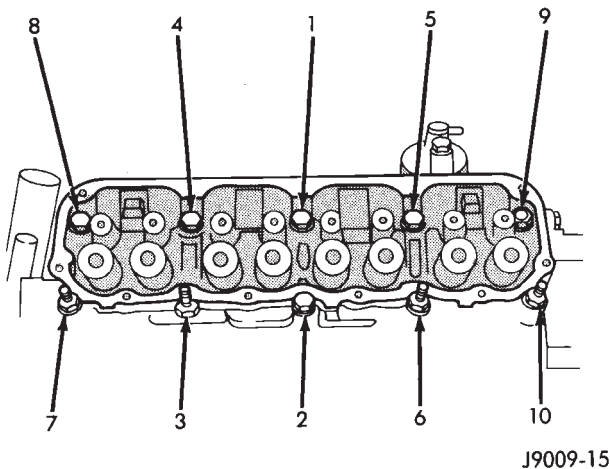

Fig. 39 Engine cylinder head Bolt Tightening Sequence
(10) Tighten the engine cylinder head bolts in sequence according to the following procedure (Fig. 39):